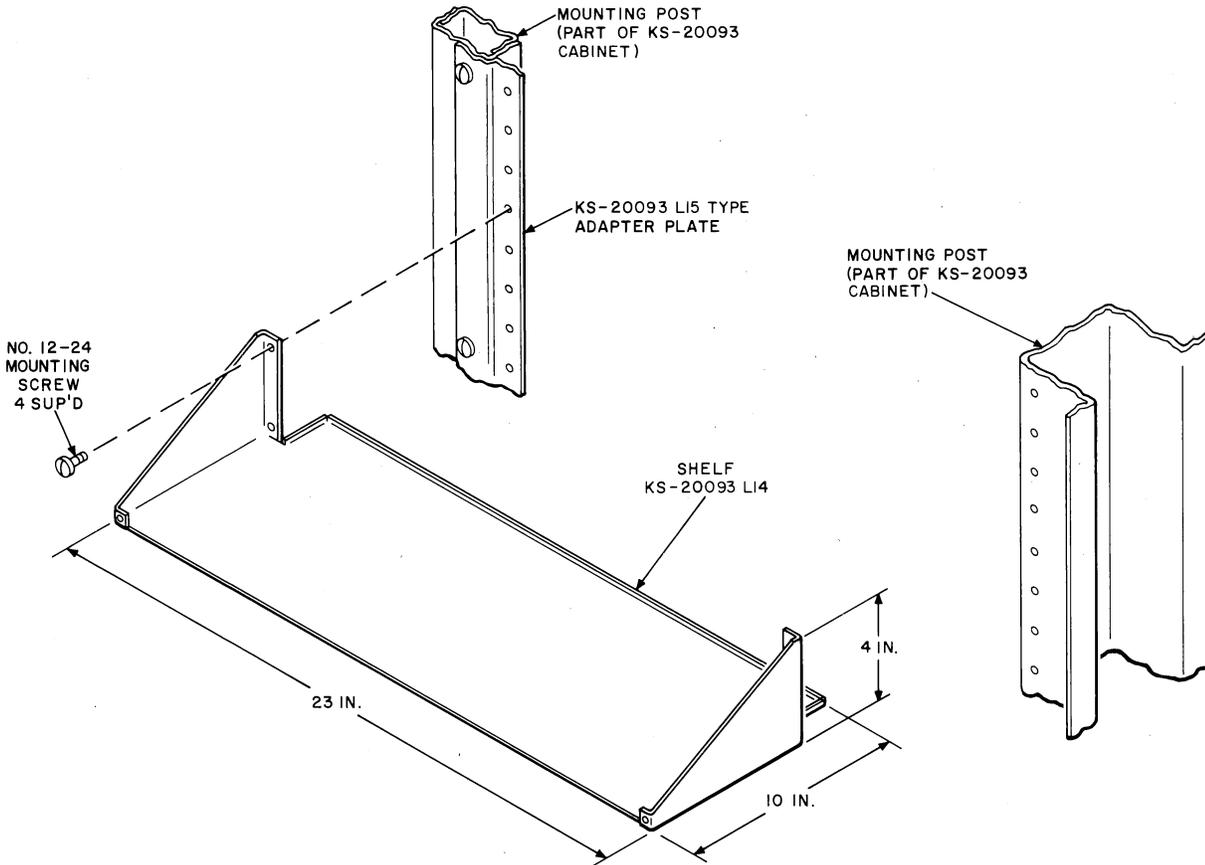

Fig. 5—KS-20093-L14 Shelf Installation Information
2.09 The data sets and data auxiliary sets associated with the data mountings are also mounted in the cabinet as space will permit. A KS-20093-L14 shelf can be mounted in the cabinet to provide a space to install data sets and data auxiliary sets. Refer to Fig. 5 for information on mounting the KS-20093-L14 shelf.